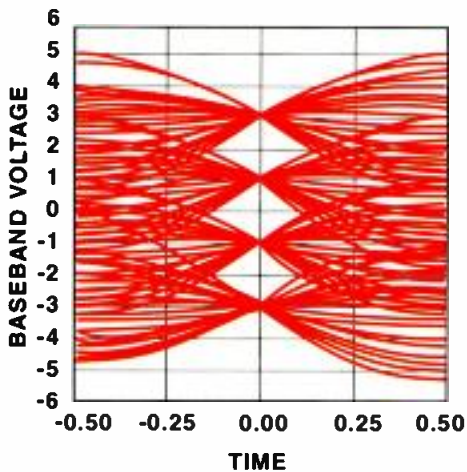

Figure 4. A 4-level eye pattern.
Referring to Figure 3, a received baseband signal at point (1) drives an oscilloscope vertical deflection input while the horizontal sweep rate is locked to the symbol rate clock. The scope displays a picture, as illustrated in Figure 4.
In Figure 4, 4-level amplitude pulses are used on the monitored modem. The point in the center of the eye pattern where the four levels become sharply defined represents the periodically recurring symbol time at which the baseband signal should be sampled and decisions made on which of the four amplitude levels was transmitted. The sharp definition of the levels results from the absence of any intersymbol interference at this ideal sampling time with Nyquist filters.